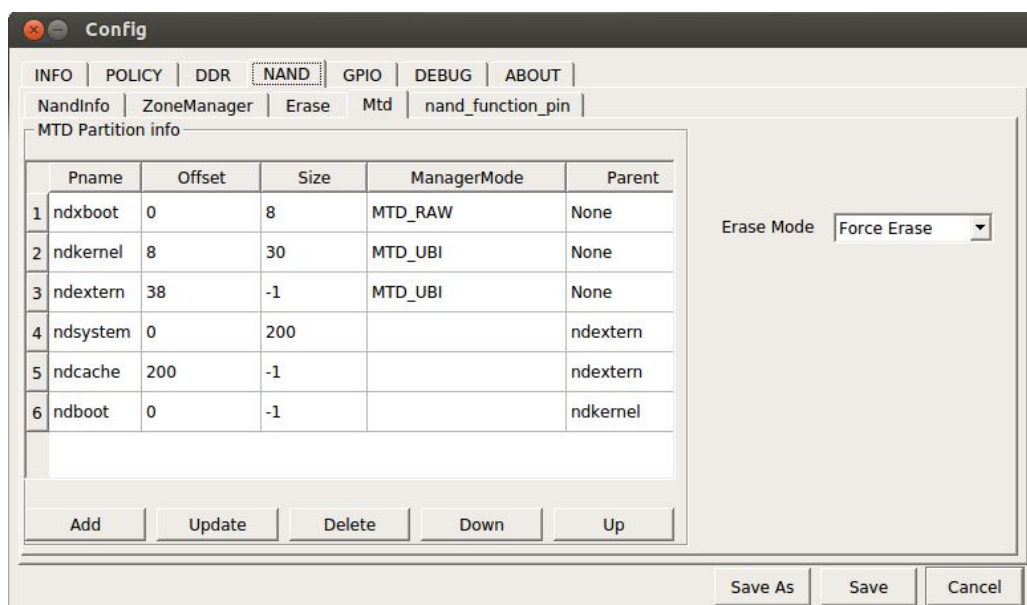

Figure 5-2 Kernel single UBI volume of MTD
2. Kernel accounts for the UBI volume of MTD, as shown in Figure 5-2